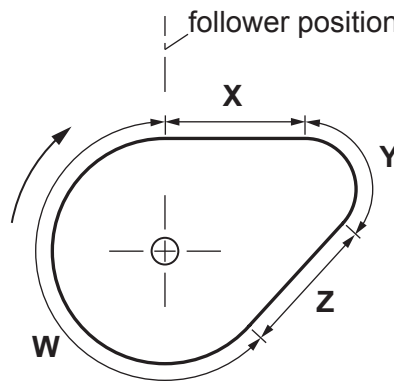

Fig. 11.2
- (b) Fig. 11.2 shows a cam with the direction of rotation indicated.
- (iv) Explain why rotating the cam shown in Fig. 11.2 at high speed could result in loss of efficiency.